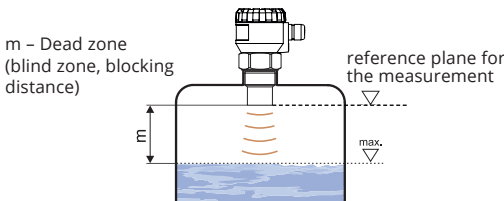

Fig. 2: Level meter dead zone
- The reference plane for the measurement is the lower edge of the transducer (Fig.2). In connection with the measurement principle, no signals **reflect-ed** in the area immediately under the level meter can be evaluated. **The zone** (Fig. 2) determines the min. distance possible between the level meter and the highest surface level. The min. distances to the medium are given in the chapter "Specifications".